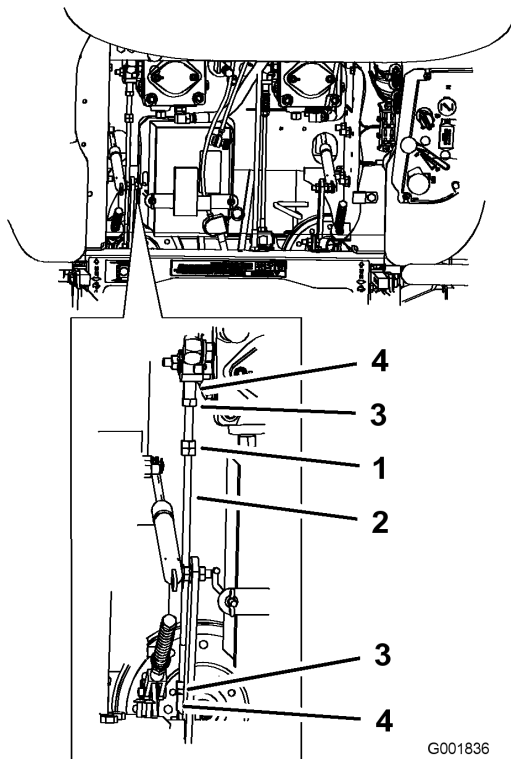

Figure 59
1. Loosen the locknuts at the ball joints on the pump control rod (Figure 59).
3. Adjust the pump rod length by rotating double nuts on the rod, in the appropriate direction, until the wheel is still or slightly creeps in reverse (Figure 59).
6. Tighten the locknuts at the ball joints (Figure 59).